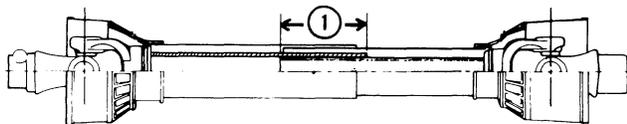

Figure 16
- Hold the driveline sections parallel to each other and check for a minimum of 5" overlap as shown at, (1), Figure 16. The overlap will be the distance between the two marks on the shields. If the driveline has less than minimum overlap, DO NOT USE. Recheck the mounting of the implement. Adjust the top link to assure the implement is level front to rear. Adjust the lower links to assure the implement is level right to left.